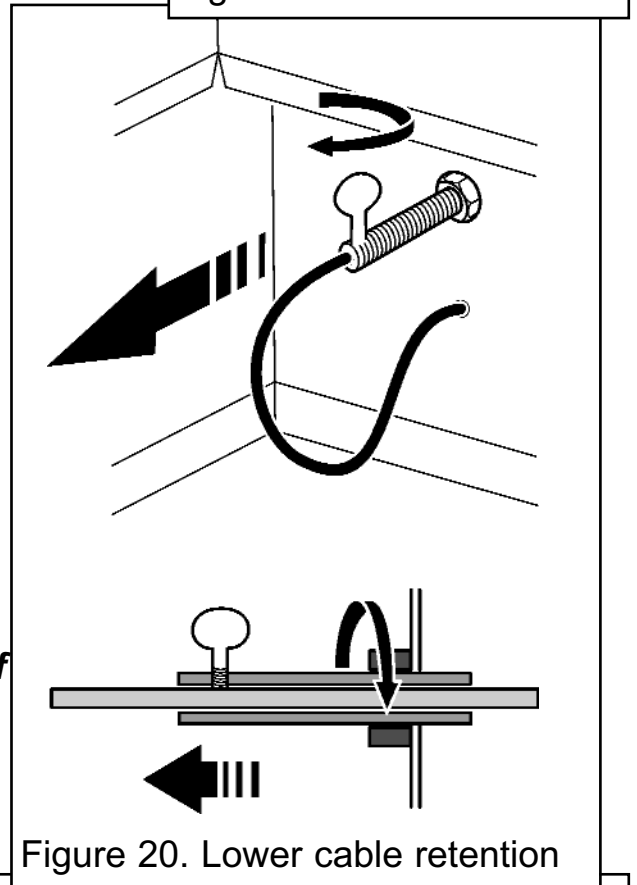

Figure 20. Lower cable retention
12. Pull each cable taut. Push the cable retainers hard up against the back panel. The end of the cable adjuster will pass into the hole. Tighten the screws in the retainers so that they clamp the cables in position. Apply tension to the cables by turning the hexagonal adjusters by hand (See figure 20).
15. Feed the free length of the cables through the small holes in the back of the convection box immediately below the cable adjusters so that they are available to allow easy removal and refitting of the appliance during subsequent service calls. **Do not cut off the free lengths of cable** (See figure 20).